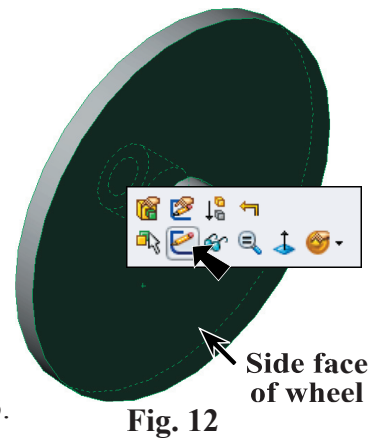

Fig. 12
Step 1. Click the **side face of wheel** and click **Sketch**  on the Content menu, **Fig. 12**.